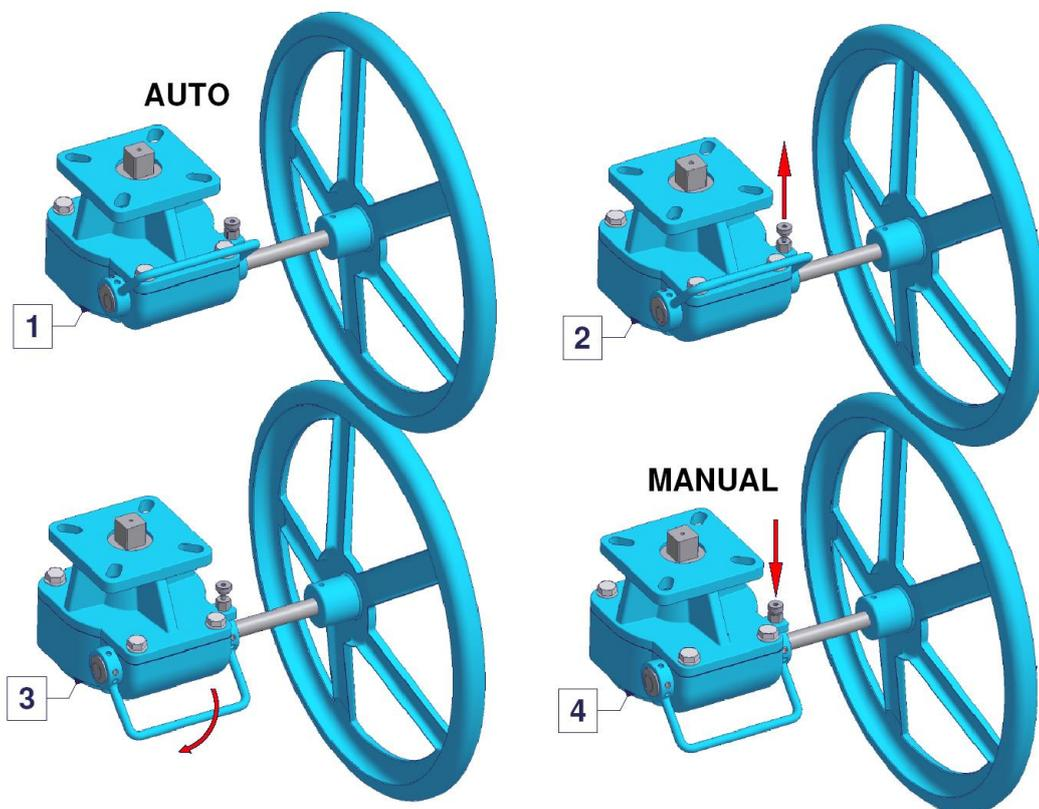

FIG. 3 GEARBOX OPERATIVITY
*The declutchable gearbox AGS is standard delivered in automatic mode: control handle (21) in AUTO position and valve operated by the actuator (fig. 3-1). To achieve the manual operating of the gearbox, follow the next points looking the fig.3:*